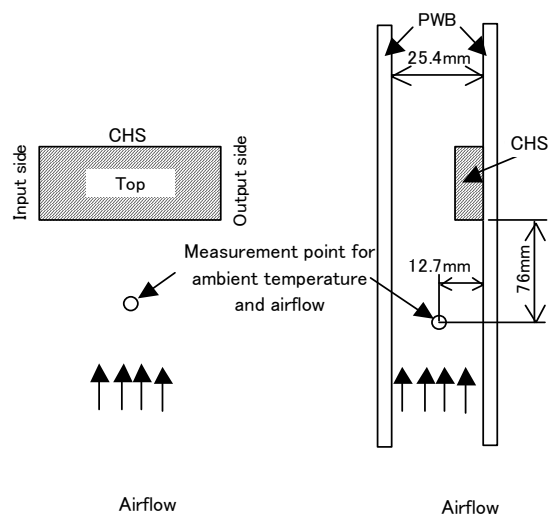

Fig1.1 Measuring method
- (1) Input : DC 48 [V]
- (2) Output : Rated output
- (3) Air flow : 2.0[m/s]
- (4) Measuring method : Shown as Fig1.1